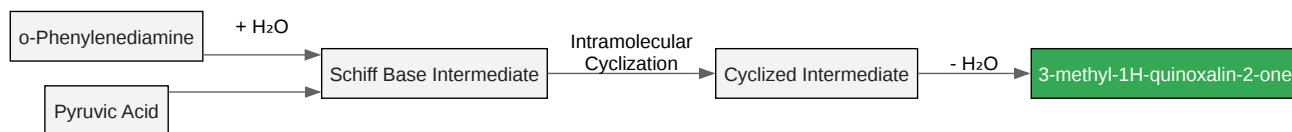

Fig. 1: Reaction Mechanism
- ResearchGate, Typical strategies for the synthesis of quinoxalin-2(1H)-ones. [URL: https://www.researchgate.net/figure/Typical-strategies-for-the-synthesis-of-quinoxalin-21H-ones_fig1_382218776]
- ResearchGate, Synthesis of quinoxaline using o-phenylenediamine with various diketone..., 2023. [URL: https://www.researchgate.net/figure/Synthesis-of-quinoxaline-using-o-phenylenediamine-with-various-diketone-using-different_fig1_369929555]